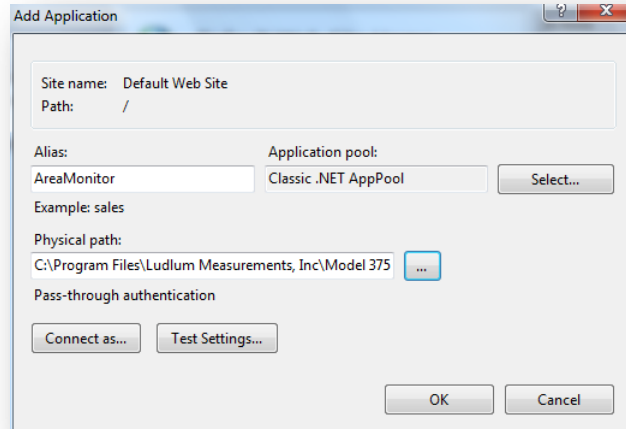

Figure 82 – Add Application
7. Enter “AreaMonitor” (without the quotation marks) into the “Alias” text box and click “Next”. See Figure 82.